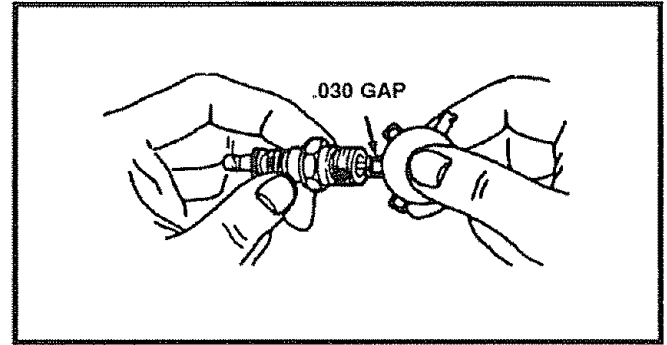

FIG. 35
- Be sure the spark plug is clean and free of foreign material. Check the electrodes gap (See Fig. 35) with a wire feeler gauge and reset the gap to .030 inch if necessary.